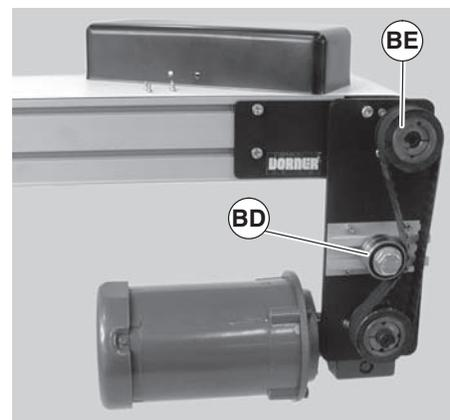
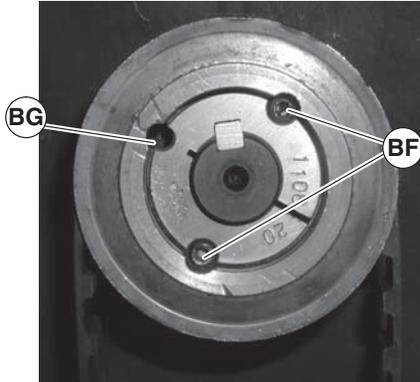

Figure 42
Figure 43
- Loosen tensioner (Figure 42, item BD).
- d. Remove taper-lock screws (Figure 43, item BF) on the driven pulley (Figure 42, item BE). Insert one (1) of taper lock screws (Figure 43, item BF) in remaining hole (BG). Tighten screw (BF) until pulley is loose. Remove pulley, taper hub assembly and timing belt.